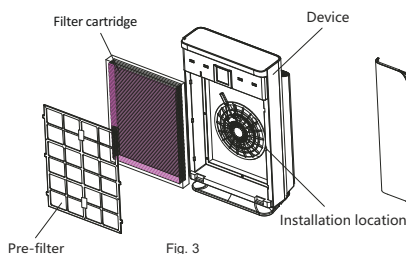

Fig. 3
1. Filter cartridge - unpack the new cartridge and remove the protective film. Insert it into the device in the direction indicated on the tabs (Front) located on the upper edge (Fig. 3).